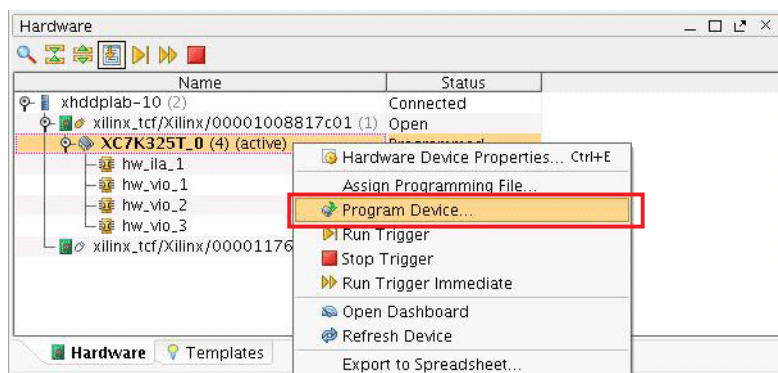

Figure 21: Program Device
7. Right-click the device in the Hardware list and select **Program Device...** (Figure 21). Ensure that the bitstream file path and name are correct and click **OK**.